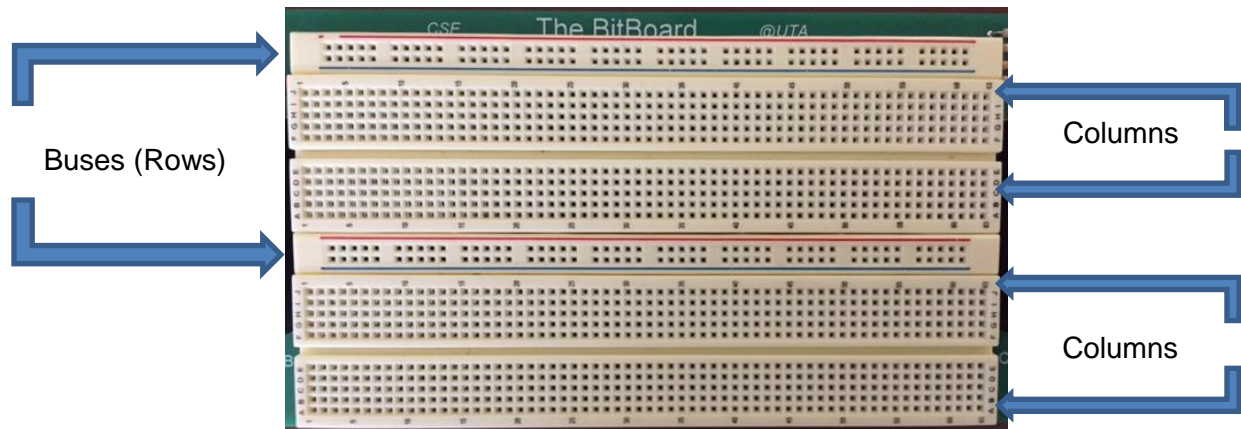

Figure 5 – Solderless Breadboard Organization.
Solderless breadboards (SB) are used to build electrical and electronic circuits without the need to solder wires and/or make printed circuit boards for interconnecting circuit components. SBs are organized as rows and columns of connection points (CPs) as shown in Figure 5.
Each CP in a column in the BitBoard are connected and hence receive the same signal as shown in Figure 5. For Example, Column 1 gets same signal through A, B, C, D, E but not through F, G, H, I, J as it's separated by the gap.